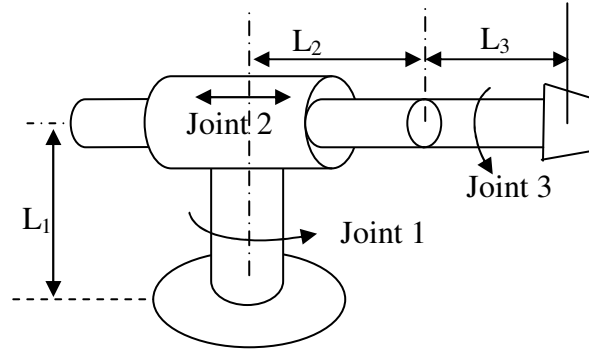

Fig. 2
5. For the two-degree of freedom 2R manipulator shown in Fig. 2, assume that the inertia of the first moving link is negligible and that the second moving link is a slender homogeneous rod of mass 'm'. Obtain the dynamical equations of motion by recursive Newton-Euler method. [16]
5. A two-link planar arm is shown in Fig. 2. Calculate the velocity of the tip of the arm as a function of joint rates. [16]
- 5. Determine the 3x3 jacobian that calculates linear velocity of the tool tip from the three joint rates for the manipulator shown in Fig. 2. [16]